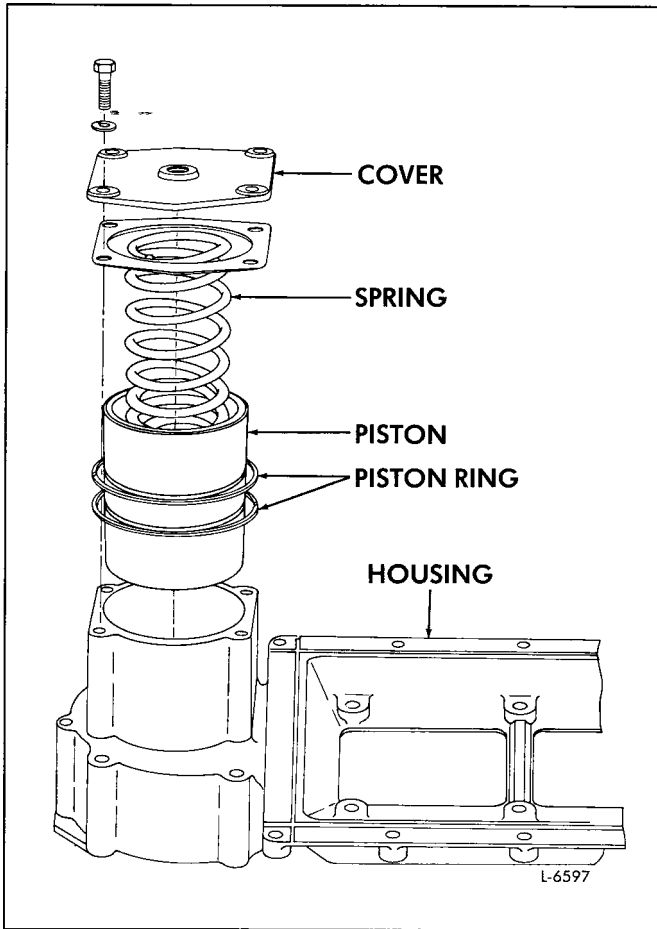

Fig. 5 - Blower Bypass Valve Assembly
1. Remove the air line and associated fittings to expose the hole in the cover of the piston valve housing (Fig. 5).
4. Remove the four (4) cap screws that secure the cover to the housing. Tool J 37466 will hold the cover and spring in place.
This procedure can be completed on the engine or on the bench. To assemble the blower bypass valve, refer to Fig. 5 and proceed as follows: